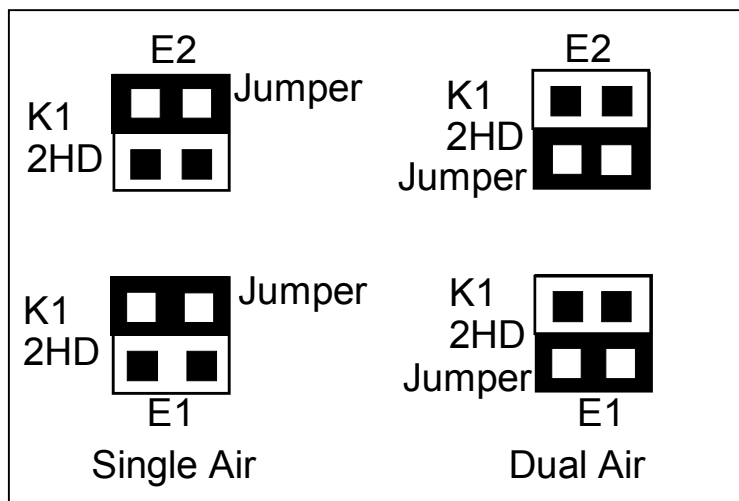

**Figure 4-4. Results of Excessive Air Pressure**
**CAUTION:** Resist the temptation to increase the downspeed by increasing the regulator setting since this increases the force applied to the workpiece by the electrodes (see figure 4-4). Illustration (a) in figure 4-4 shows the correct air pressure adjustment – the *actual* force equals the firing force setting. Illustration (b) shows the result of excessive air pressure – the *actual* force is much greater than the firing force setting. Excessive air pressure causes the electrodes to mushroom as well as wear faster.